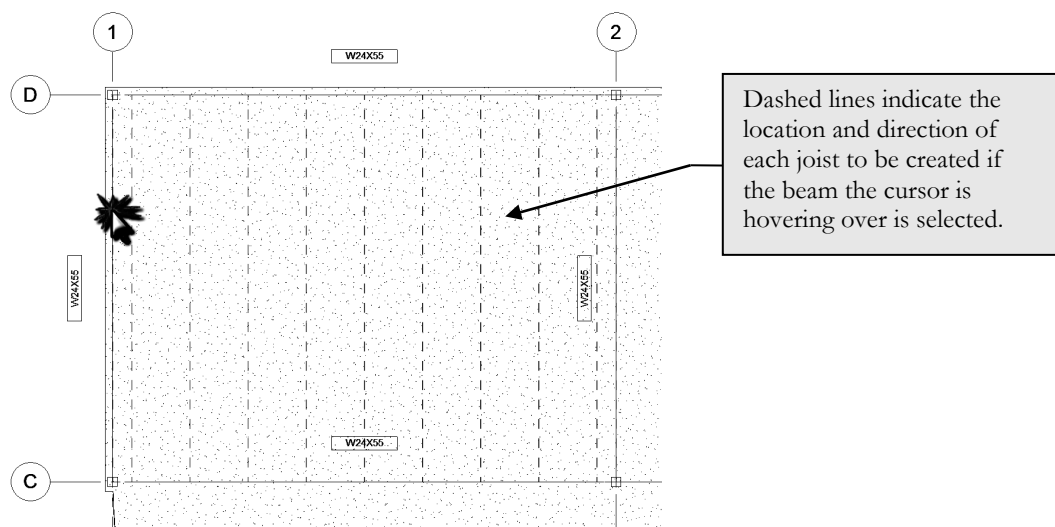

FIGURE 7-4.9 Creating a beam system for the bar joists
35. **Click** the beam along Grid 1 as shown in Figure 7-4.9.